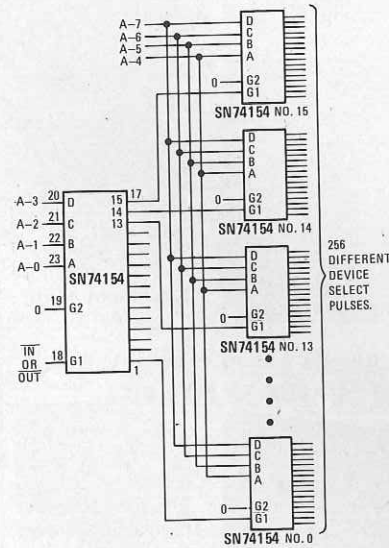
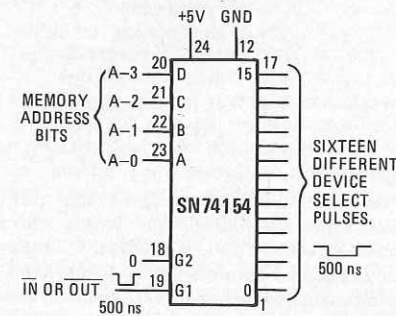

FIG. 1
FIG. 2
The second 8-bit byte, XXXXXXXX₂, in the 16-bit OUT instruction is the *device code* for the output device. A total of 256₁₀ different devices can be addressed with such a code. How this is done is shown in full detail in Fig. 1, a device decoding circuit of seventeen SN74154 IC's. Since this is a rather complicated circuit, let us first discuss the simpler decoding circuit of Fig. 2.
This 8-bit device code is connected directly to one or a group of SN74154 IC's, as is shown in Figs. 1 and 2. In Fig. 2, only four of the eight bits are used, whereas in Fig. 1, all
3. These nine output lines (A-0 to \overline{OUT}) are used as inputs to the seventeen SN74154 IC's shown in Fig. 1. This circuit generates a 500-ns negative device-select pulse for device 321₈. All the remaining 255₁₀ outputs from the decoders remain at logic 1 during this time.